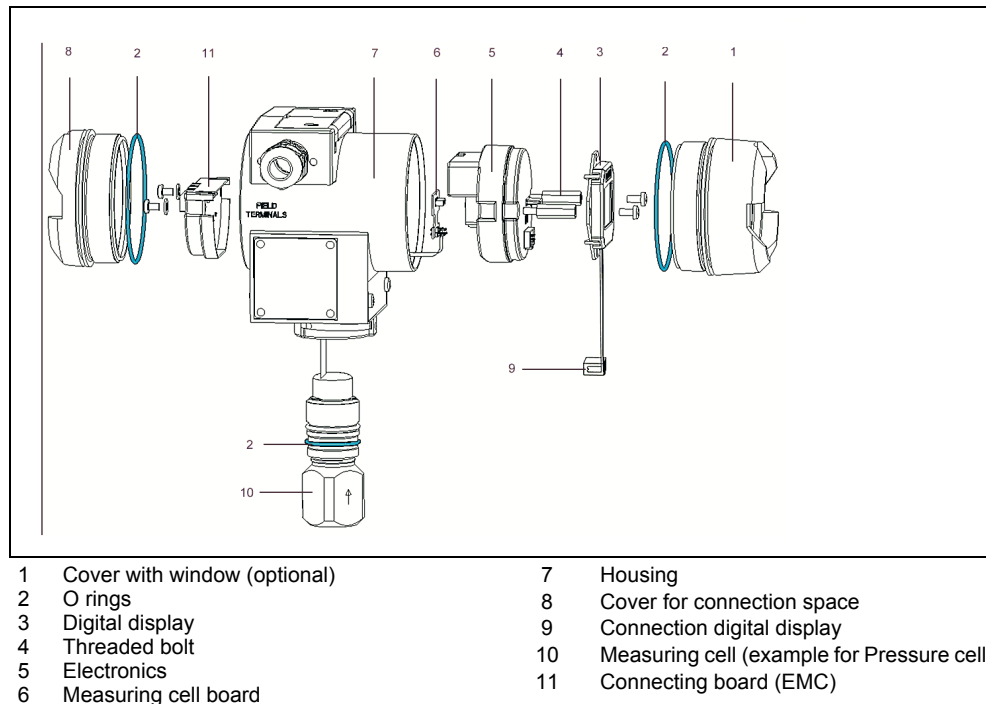

Figure 4 Device assembly until product release 29
2. Remove the cover (1, Figure 4, page 58 and Figure 5, page 58) and the digital display (2, Figure 4, page 58 and Figure 5, page 58) behind it. In addition to this you remove both screws and then you can take away the conductor band (Figure 7, page 59).
3. Unscrew the two threaded bolts (4, Figure 4, page 58 and Figure 5, page 58) holding the electronics (4, Figure 4, page 58 and Figure 5, page 58) in place.
5. The following applies for the compact electronic block (only one conductor band): Pull off the measuring cell board (6, Figure 4, page 58 and Figure 5, page 58) which connects the measuring cell (10, Figure 4, page 58 and Figure 5, page 58) to the electronics with the correct tool e.g. a pair of tweezers (Figure 13, page 60 and Figure 15, page 61) and plug it to the new electronics (Figure 16, page 61); The conductor band must not be stretched too tight (Figure 12, page 60). Make sure the conductor band is not crushed in order to avoid short circuits.
2. Screw off the cover of the electronic connection room (8, Figure 4, page 58 and Figure 5, page 58).
3. Remove the screw which is fixed in the connection board (11, Figure 4, page 58 and Figure 5, page 58). Pay attention to the washers (tooth lock washers)
2. Remove the cover (1, Figure 4, page 58 and Figure 5, page 58) and the digital display (3, Figure 4, page 58 and Figure 5, page 58) behind it. In addition to this you remove both of the screws and take away the conductor band (Figure 7, page 59).
3. Unscrew the two threaded bolts (4, Figure 4, page 58 and Figure 5, page 58) holding the electronics in place (5, Figure 4, page 58 and Figure 5, page 58).
5. Pull off the measuring cell board (6, Figure 4, page 58 and Figure 5, page 58) which connects the measuring cell (10, Figure 4, page 58 and Figure 5, page 58) to the electronics with the correct tool e.g. a pair of tweezers (Figure 14, page 61 and Figure 15, page 61).
13. Screw the two threaded bolts (4, Figure 4, page 58 and Figure 5, page 58) fixing the electronics (5, Figure 4, page 58 and Figure 5, page 58) tight again.